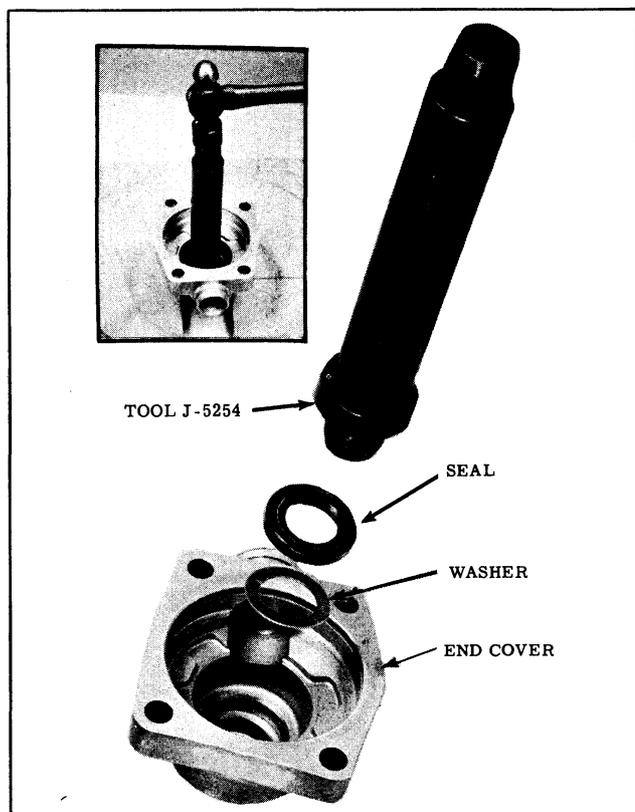

Fig. 5-44 Installing Seal
- c. Install seal so that it seats against the washer. (See Fig. 5-44)